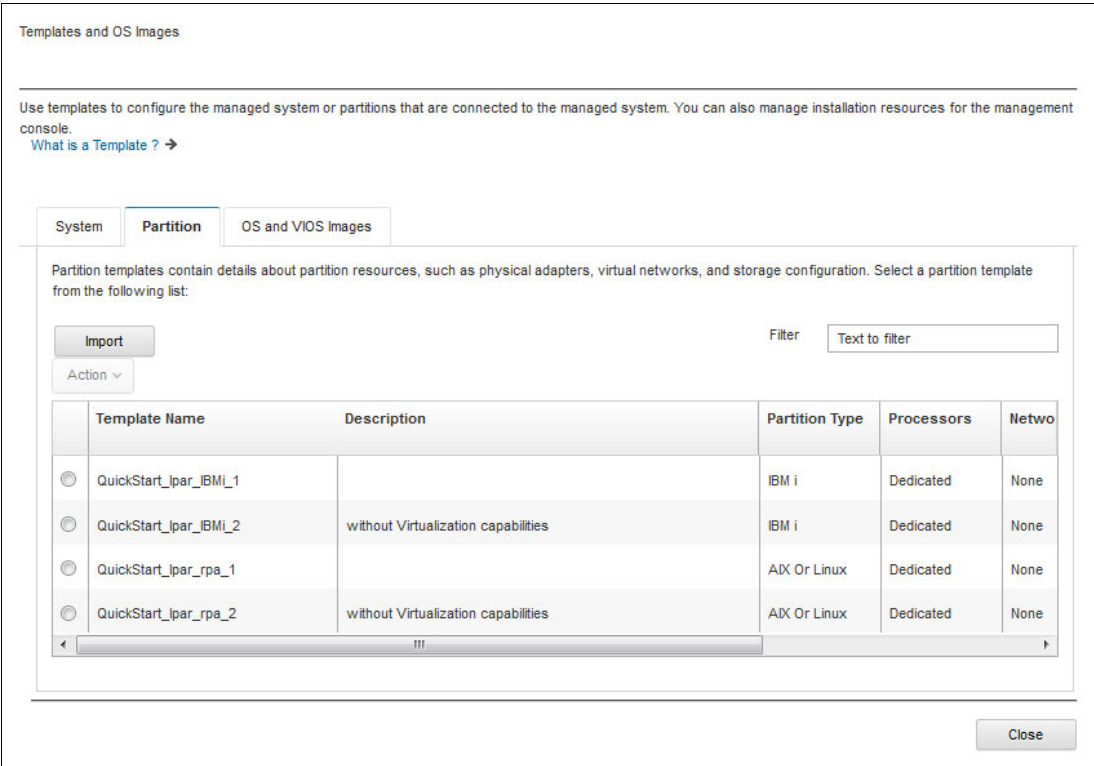

Figure 2-66 View the template
1. Click **Templates and OS Images**. A new window opens, where you can view the available templates. Click the **Partition** tab, as shown in Figure 2-66.